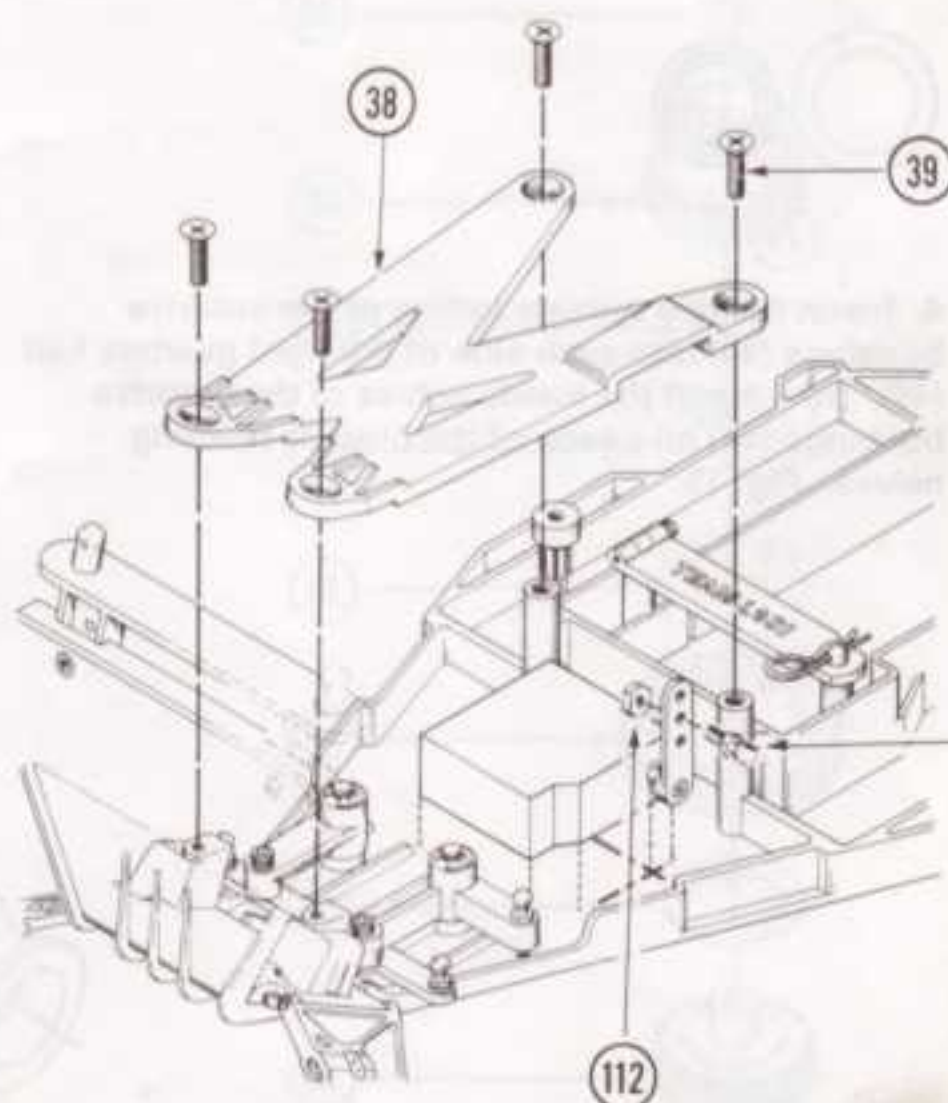

FIG. 16
16. Attach steering servo using servo tape (37) to front of chassis (9) as shown. Fig. 16.
* *NOTE: Be sure servo arm is parallel and in line with the scribe marks on the chassis (9) as shown and a stud ball (22) is in steering servo arm. Fig. 16*
17. Thread an adjustable rod end (34) onto both sides of 1 1/2" threaded rod (35).
18. Thread one 3/16" stud ball (123) into steering servo arm and secure with 4-40 nut (112).
19. Attach one end of 1 1/2" rod (35) onto stud ball (22) in servo saver (25) and other end onto stud ball (123) in steering servo arm.
20. Secure front stiffener (38) to chassis (9) using four 8-32 x 1/2" steel flathead screws (39). Fig. 16.
* *NOTE: Be sure servo arm can travel freely. Screws (39) are silver in color.*